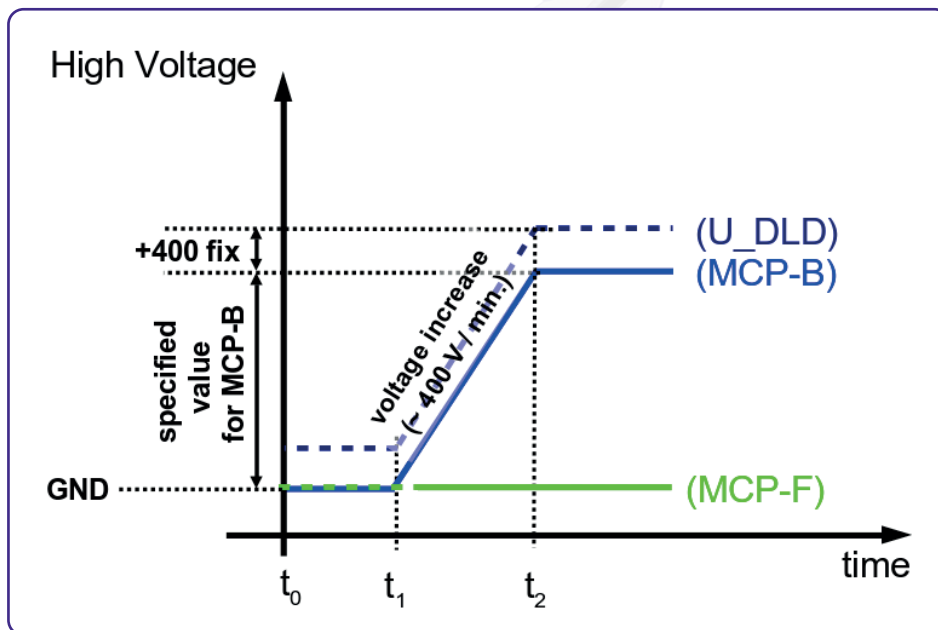

Figure 3: Schematic sketch on voltage ramping during "Start-Up" procedure.
- Turn on the high voltage carefully. The voltage increase should not exceed 400V per minute. A schematic sketch on how to ramp the voltages during the “Start-Up” procedure is given in **Figure 3**. The starting operation voltage is specified in the specification sheet of the detector.